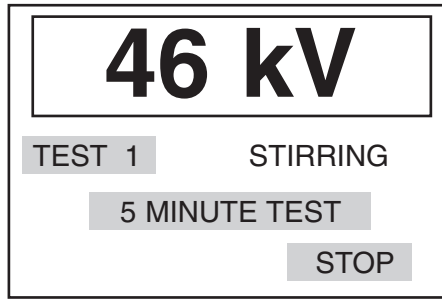

Figure 7 Example Stirring Screen
3. When breakdown occurs (or if the maximum voltage is reached) the test voltage is cut off, the 'kV' warning light goes out and the test set begins its oil sample stirring period. The stirrer rotates for a period of 30 s and the breakdown voltage value of the previous test is retained on the display. The display screen appears as in figure 7.
3. When breakdown occurs (or if the maximum voltage is reached) the test voltage is cut off, the 'kV' warning light goes out and the test set begins its oil sample stirring period. The stirrer rotates for a period of 1 minute and the previous breakdown voltage is retained on the display. The display screen appears similar to that in figure 7.
- If the test was unsuccessful according to BS 5730a, two further consecutive successful tests must be performed. Prior to voltage application a one minute stir followed by a one minute stand period is performed. Display information is based on figures 7 and 8 respectively.
- If the test was successful a third test must be performed. Prior to voltage application a one minute stir followed by a one minute stand period are performed. Display information is based on figures 7 and 8 respectively.